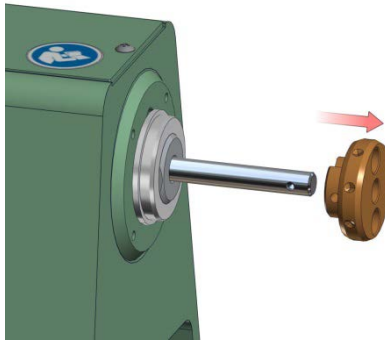

Figure 4.9.4
4. Slide the Rotary Disk (Item 9, Figure 7.4) off of the Spindle end. See Figure 4.9.4 below.